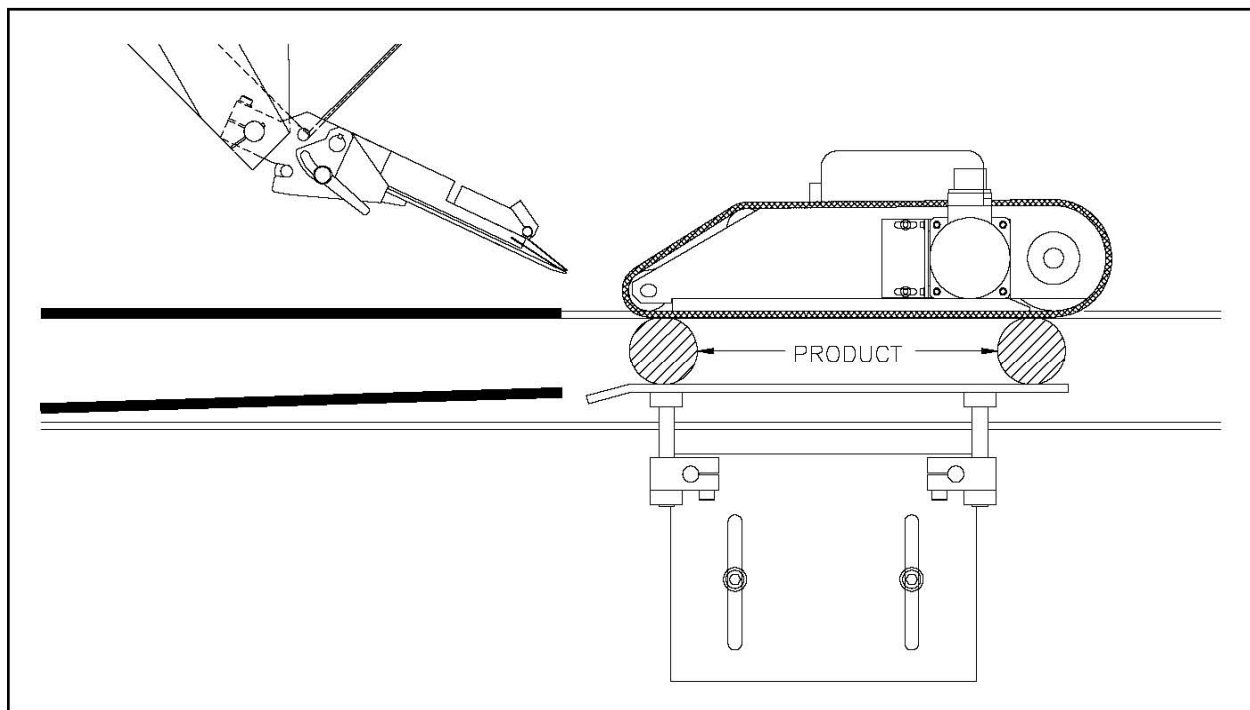

Figure 53 Pressure Bar Position
6. Position the pressure bar  $\frac{1}{3}$  to  $\frac{1}{2}$  the height of the product. (See Figure 53).
7. Make sure that the pressure bar is parallel with the conveyor chain top from in feed to out feed. See Figure 53.
8. Position the pressure bar against the two products (See Figure 53). Push the pressure bar against the products to collapse the pressure springs slightly and evenly. Tighten the pressure bar assembly in place. Remove the products.